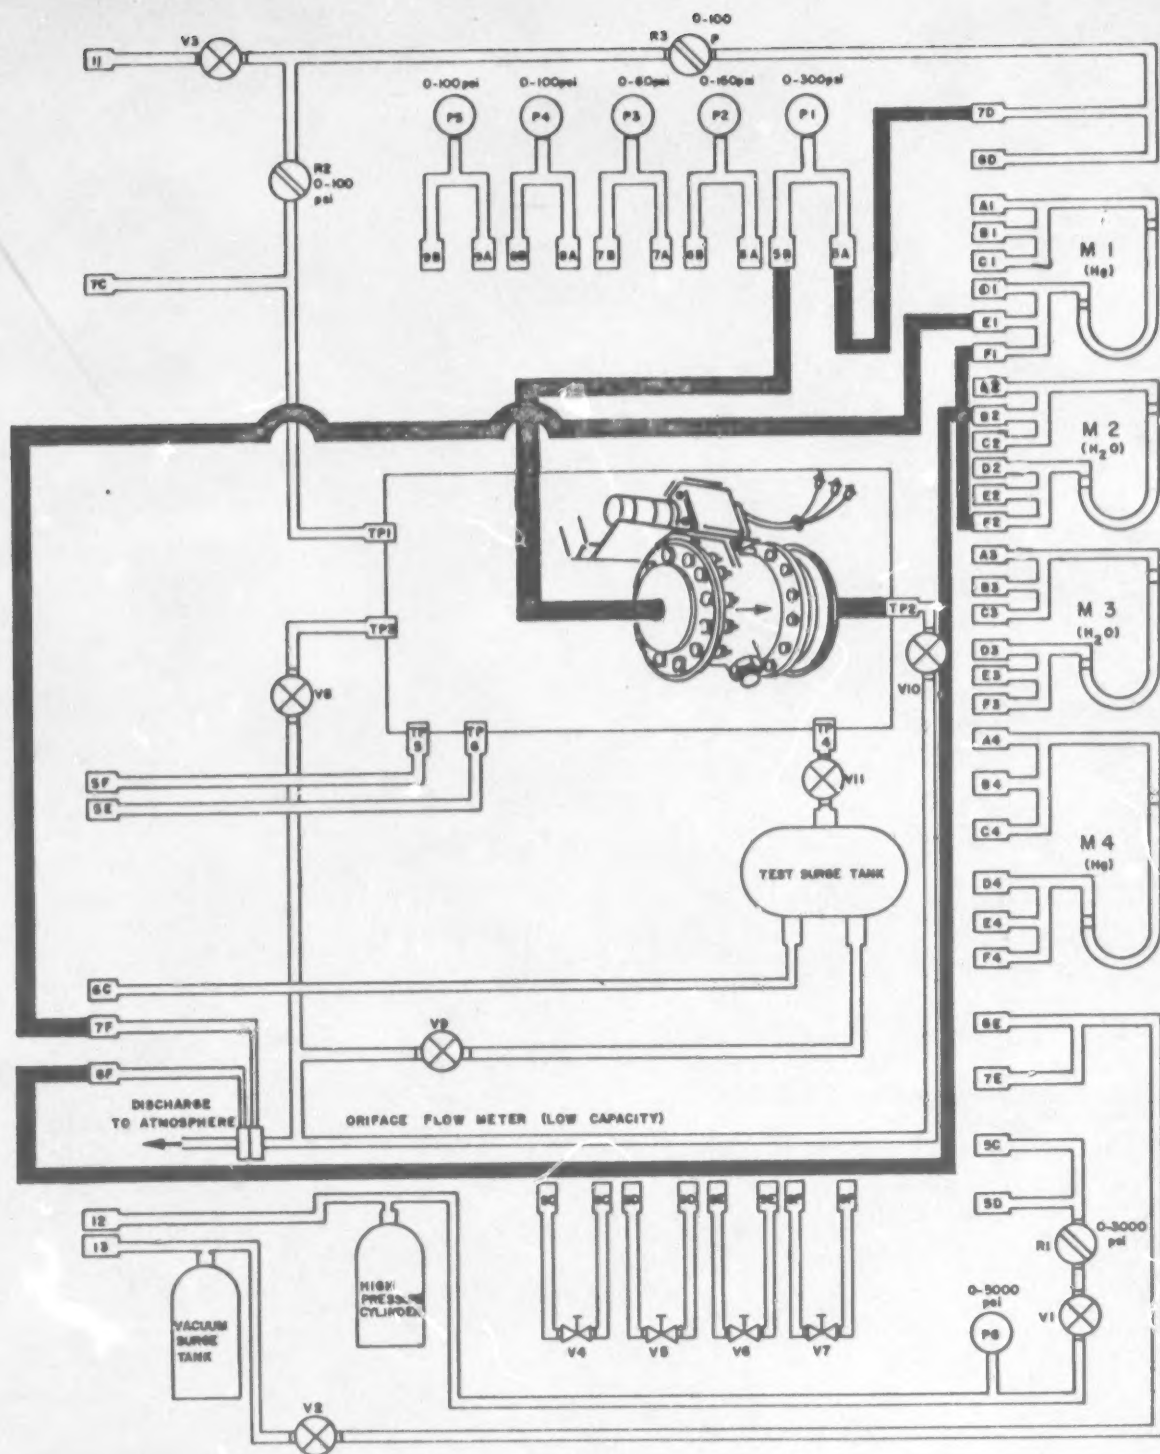
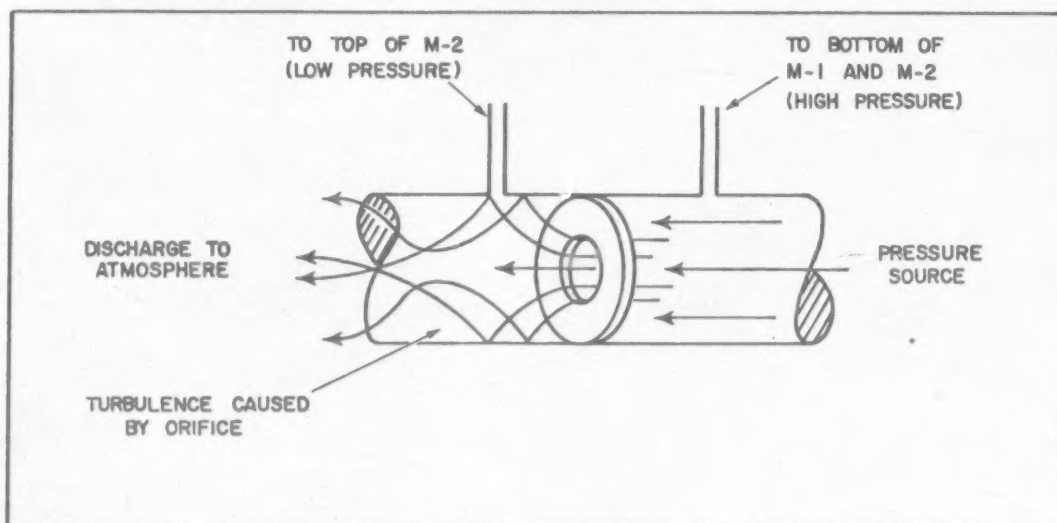

Figure 2. Test Facility Pneumatic Schematic.
Figure 3. Typical Orifice in a Duct.
a. Figure 2 gives the proper way to hook the valve to the trainer. The heavy, black lines show how to hook each hose in order to make this check.
e. Trace the air flow through the trainer and valve (figure 2). Air in the trainer flows through V-3 and R-3 to connection 7D from 7D through pressure gage P1 and then to the valve. Even though the valve is closed, some air leaks through and goes through V-10 and on to the orifice. Air flow from the upstream side of the orifice goes through connection 7F to E1. From E1 air flows to the bottom of M-1 and at the same time air flows through fitting F1 to F2 and to the bottom of M-2. The mercury manometer (M-1) now reads the absolute pressure that goes through the valve and to the orifice. This high pressure will push the water up in manometer M-2. After the air goes through the orifice, the pressure will drop due to turbulence caused by the restriction (see figure 3). This low pressure air flows through fitting 6F to B2 and in the top of manometer M-2 and tries to push the water down. The two air flows meet and stabilize in M-2. This is where the differential pressure reading is made. You will use this reading (value) later on to find if the valve is leaking too much.